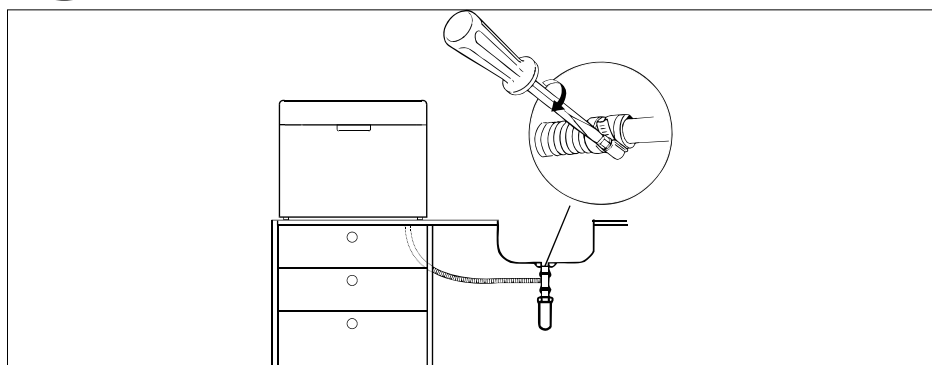

Fig. 7
- ▶ Secure the hose end so that the hose cannot slip (see **Fig. 7**).